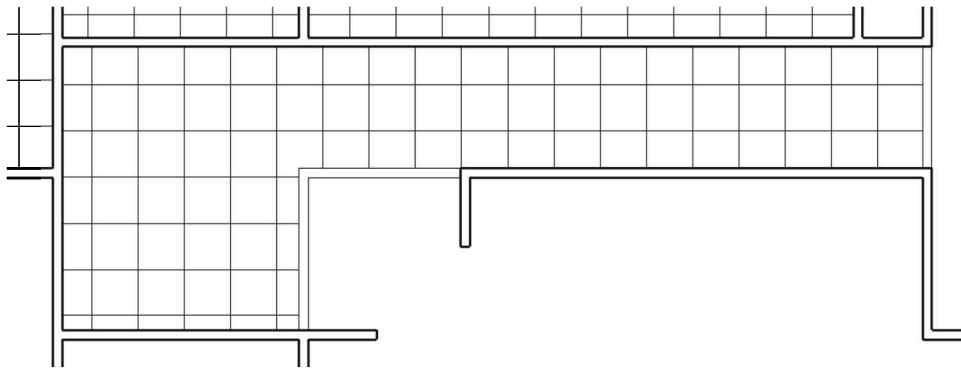

FIGURE 6-4.14 Hallway ceiling placed
33. Reposition the grid as shown in Figure 6-4.14.